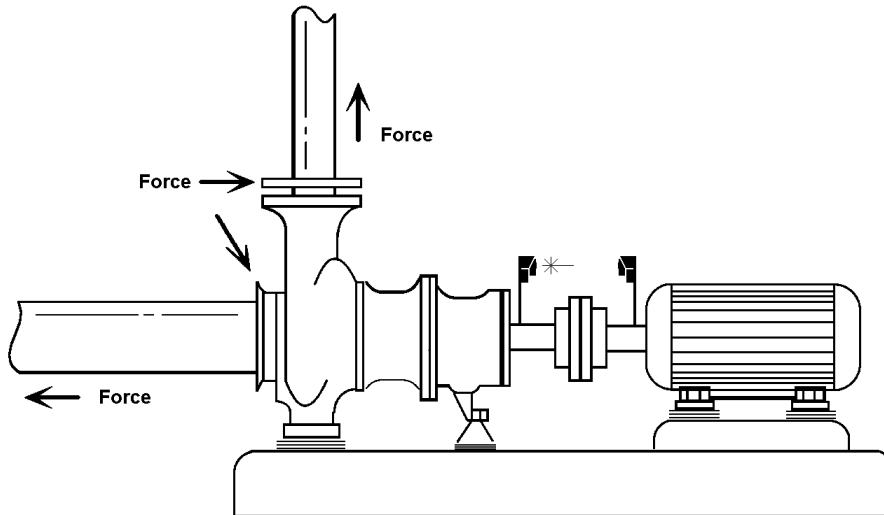

Figure 1
1) Mount Laser on the shaft or solid coupling hub of the left machine. Mount Receiver on the right machine. See Figure 1.
- 1) Mount Laser on the shaft or solid coupling hub of the left machine. Mount Receiver on the right machine. See Figure 1.